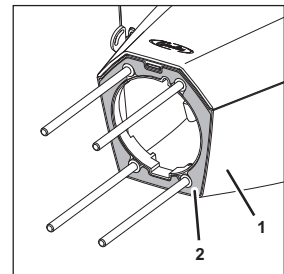

Fig. 16
8. Remove the flat seal (Fig. 16/2) from the stand (Fig. 16/1) of the unit.